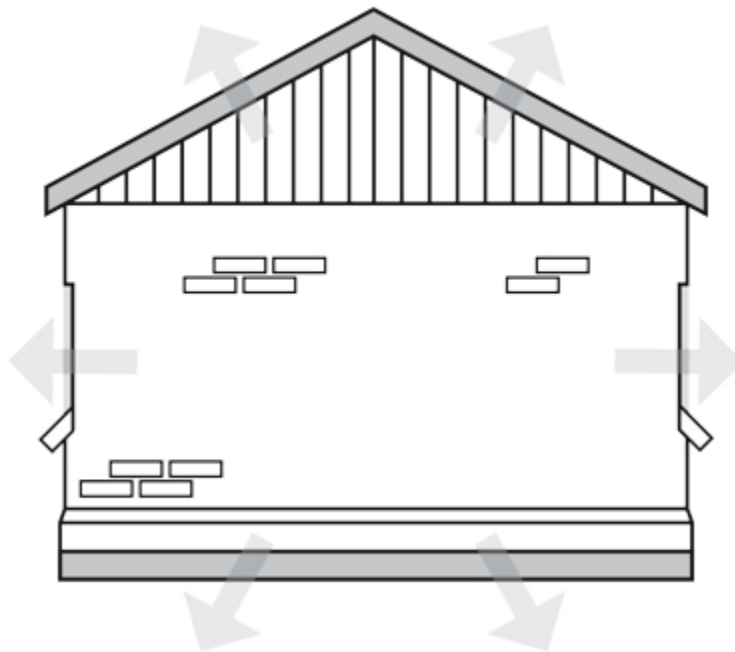

Figure 1 Transmission losses through the materials of the building envelope via conduction
- Figure 1 Fiberglass batt insulation by ITA is licensed under a CC BY-NC-SA licence.